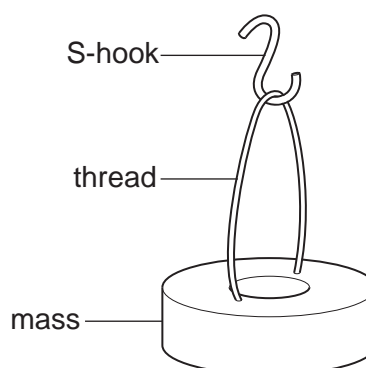

Fig. 1.2
2. The mass should be attached to the S-hook with a light thread as shown in Fig. 1.2.